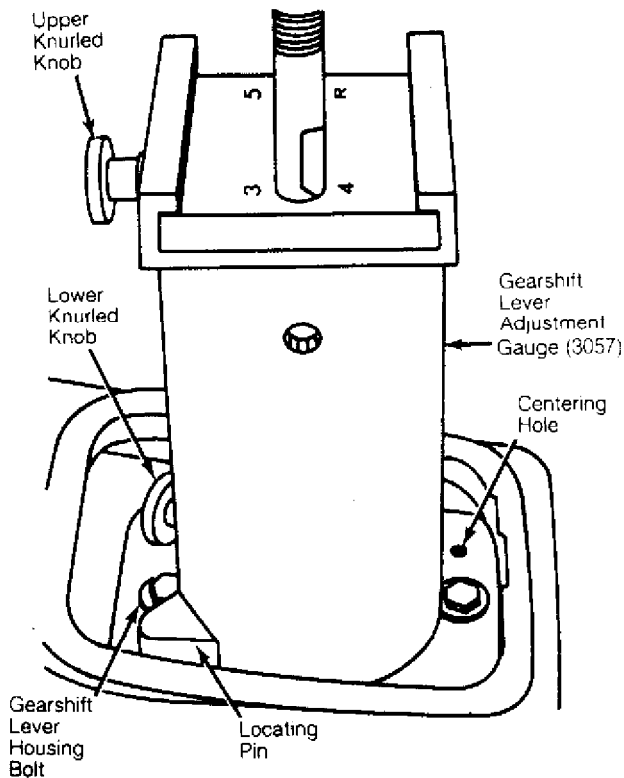

Fig. 7: Adjusting Quantum Gearshift Linkage
5) Loosen gearshift lever housing bolts, align round centering holes and tighten bolts. Install Linkage Adjustment Gauge (3057) with locating pin toward front. See Fig. 7. Push shift lever to "5/R" gear position of gauge. Tighten lower knurled knob on gauge.